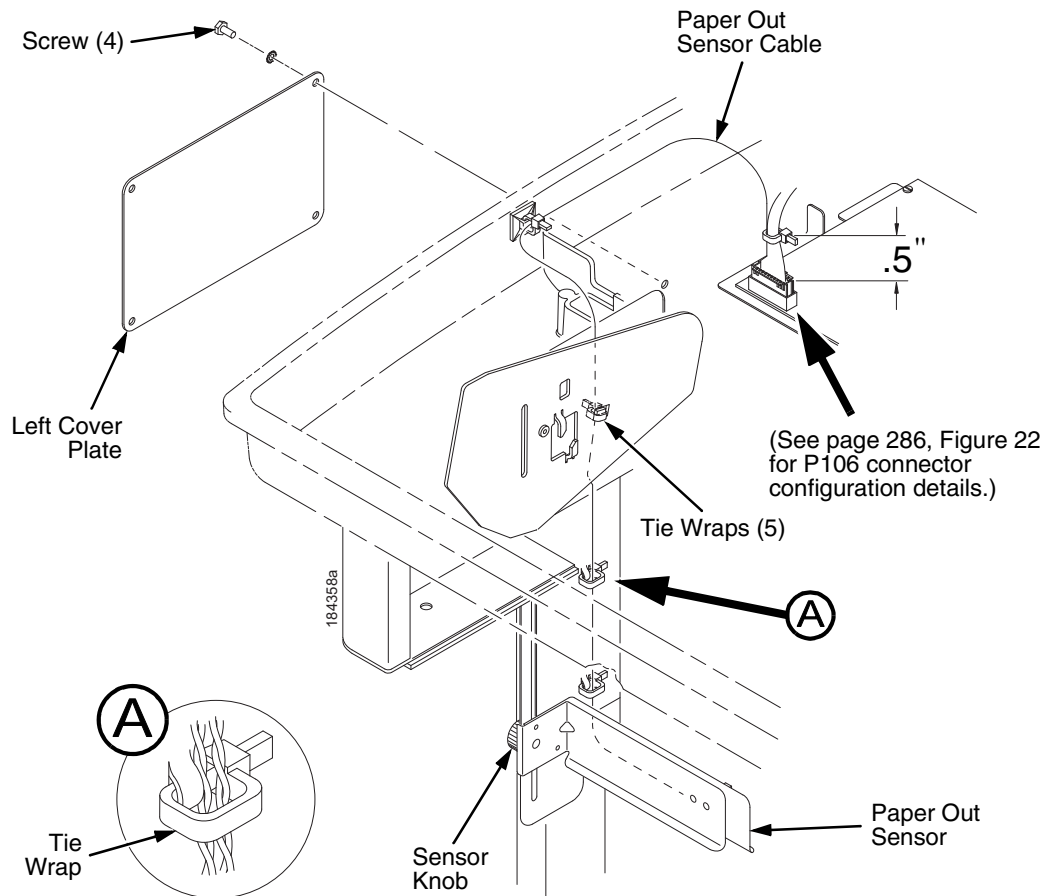

Figure 118. Replacing the Paper Out Sensor Assembly
2. Remove the screw and left cover plate. (See Figure 118.)
(See Figure 118 on page 522.)
NOTE: Be sure that the tie wrap loops around the cable, towards the back of the printer as shown in Figure 118, detail B on page 522.